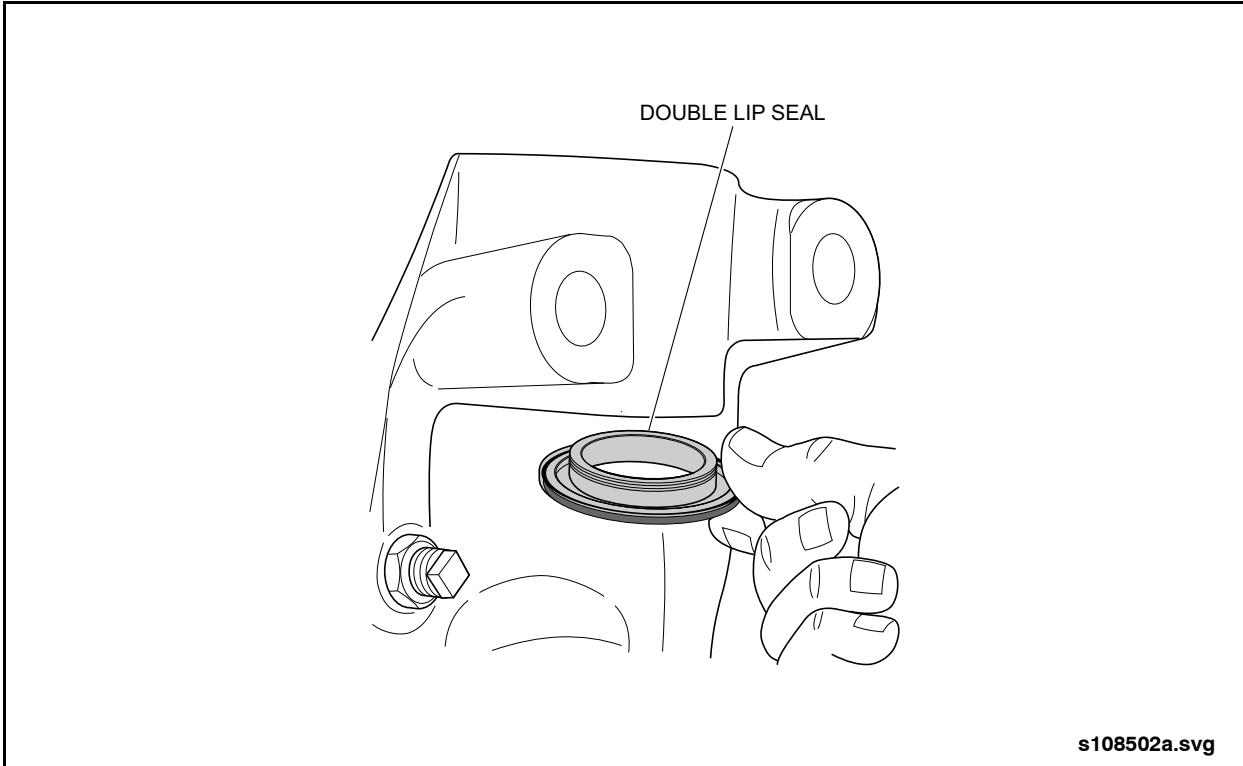

Fig. 1-34: Steering Knuckle Seal Installation
16. Install the double-lip seal into the steering knuckle upper bore. See "Fig. 1-34: Steering Knuckle Seal Installation" on page 33.